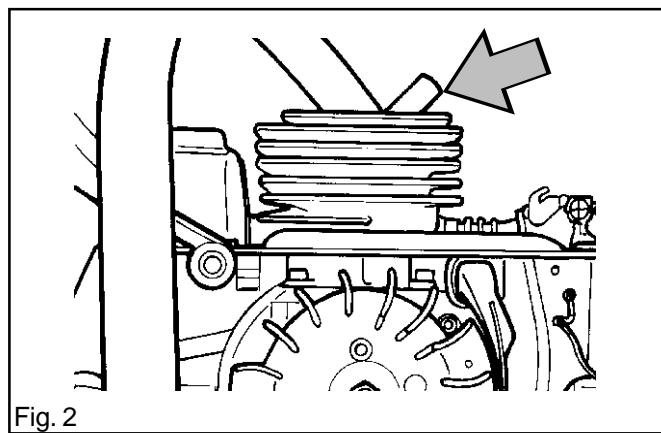

Fig. 2
6. Remove the spark plug and fit the piston stop in spark plug hole. See fig. 2.